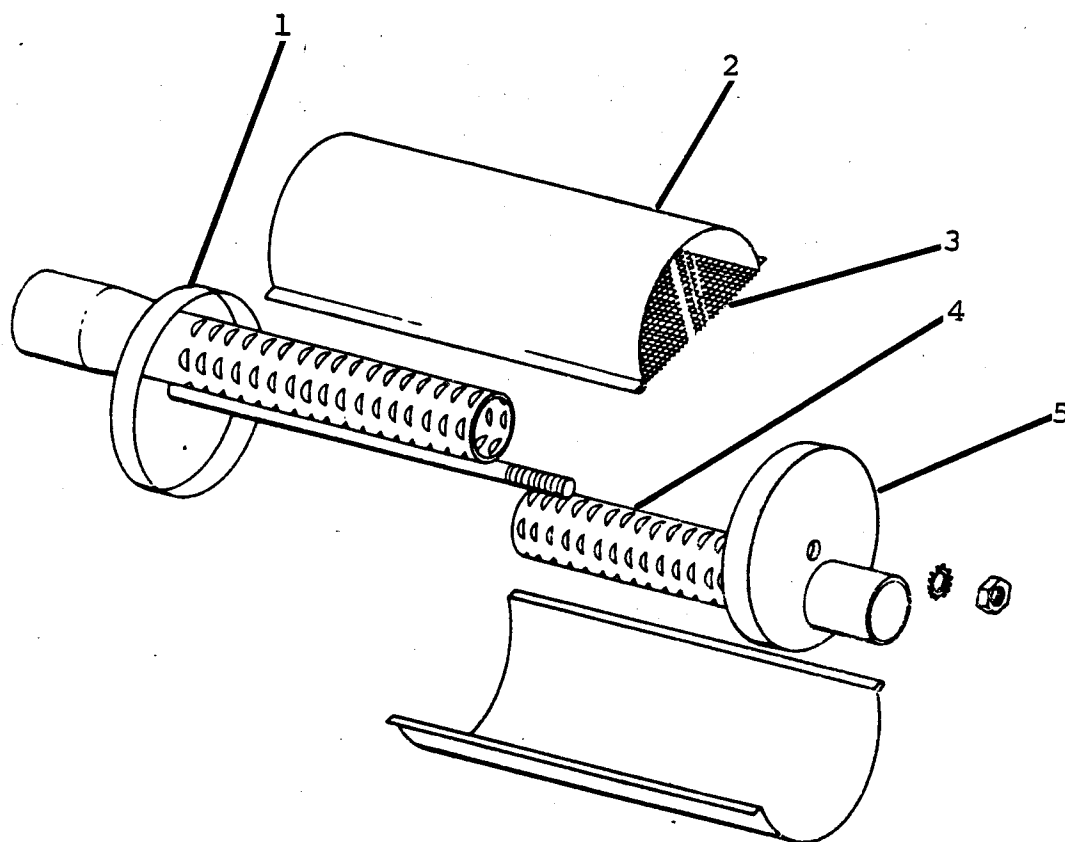

Figure 5-8. Spark Arrester
3. Clean Spark Arrester (See Figure 5-8)